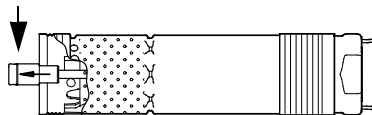

Fig. 5
2. Pull the pump shaft out to the position shown in fig. 5.